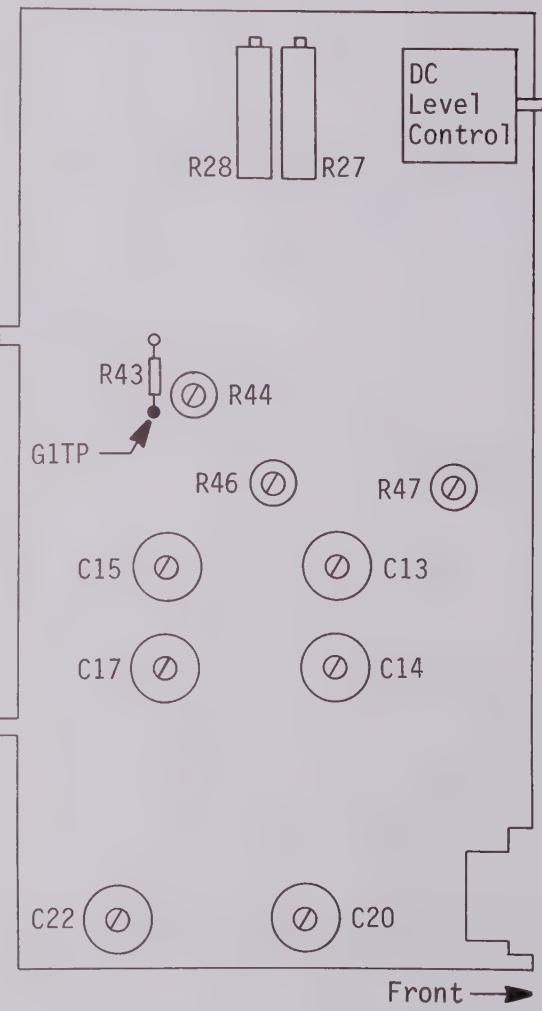

Figure 8 - Left side view
7. Connect multimeter to G1TP. (See Figure 8)
- b. Adjust R47 (Figure 8) until the trace is aligned with the horizontal marker line.
9. Adjust R27 (Figure 8) for the best straight line.
5. Adjust C20 (Figure 8) for minimum overshoot or undershoot.
3. Adjust C22 (Figure 8) for minimum overshoot or undershoot.
22. Adjust R28 (Figure 8).